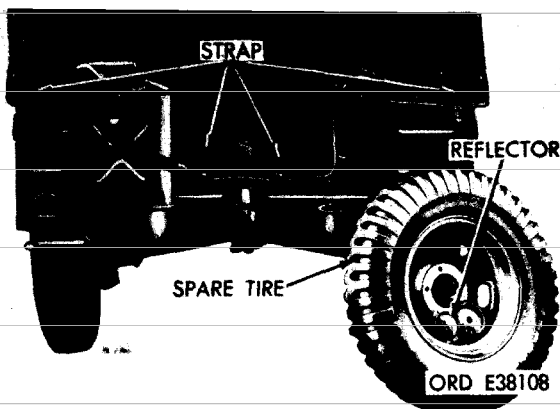

Figure 2-27. Back straps secured.
m. Secure the canvas with four holddown straps across the back of vehicle (fig 2-27). Replace spare tire and reflector assembly on the rear of vehicle.